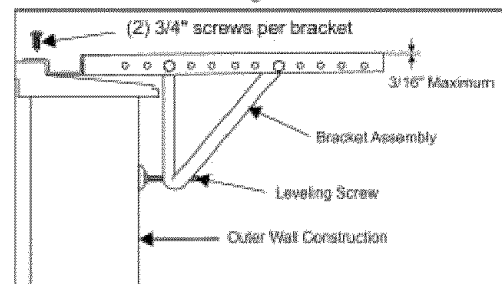
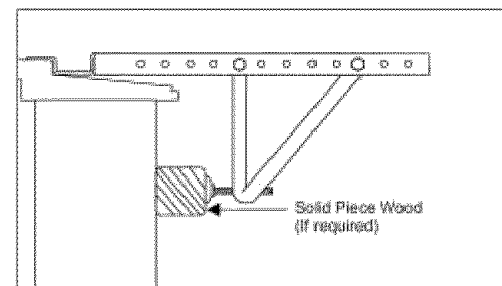

Fig. 7
Fig. 8
Two bolts per bracket. Secure with the (2) 1/4" lock washers and (2) 1/4" nuts. **DO NOT** immediately tighten these bolts as it may be necessary to adjust the depth of the **bracket assembly**, depending on the depth of your window sill. See (Fig. 7). Install the two **leveling screws** into the 90° support brackets. Test the bracket assembly in the window before cabinet installation. If the leveling screws are distanced too far away from the wall to provide stability, it may be necessary for you to fill this area with a solid piece of wood. See (Fig. 8).
C. For proper condensation run-off it will be necessary to adjust the angle/pitch of the window brackets. This is accomplished by adjusting the distance of the leveling screw on the outer wall. The maximum angle/pitch should not exceed more than 3/16". See (Fig. 7).
Use a solid piece of wood to provide stability. This will be required when sills are extra deep. See (Fig. 8).
C. Check to make sure that the cabinet is slanted slightly downward on the outside. If necessary, re-adjust support bracket as shown in (Fig. 7).